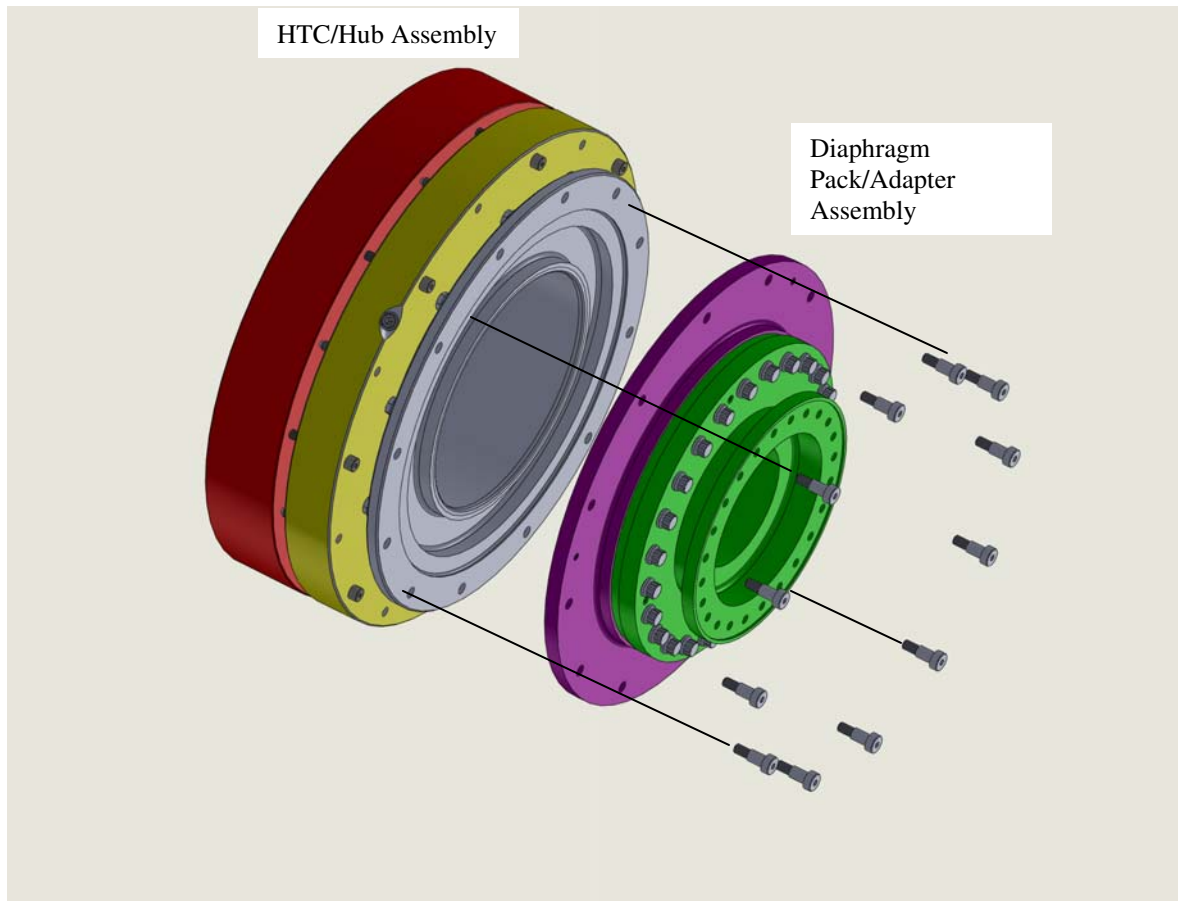

Figure 8 - Diaphragm Pack Installation Motor End
3.1.6 On the motor end, install the assembled diaphragm pack/adaptor as shown in Figure 8 using Qty(4) supplied shoulder bolts and nuts spaced 90 degrees apart, with match-marks aligned. Tighten the bolts in a criss-cross pattern to seat the pieces evenly. Install the remaining bolts and nuts to 100 in-lbs torque.